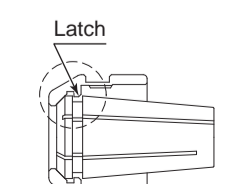

Fig. 7
- Press the collet chuck in the chuck nut by positioning the collet chuck in the chuck nut and pressing down on flat surface (Fig. 5). Be sure to fully engage the latch inside the chuck nut into the groove on the collet chucks outer circumference area (Fig. 7).